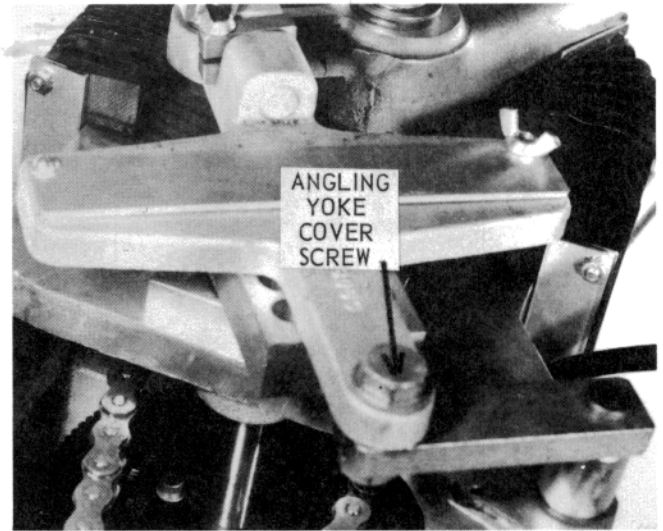

Figure 74 — Angling Yoke
- 6.1.10 Loosen angling yoke by removing the angling yoke cover screw (see Figure 74).